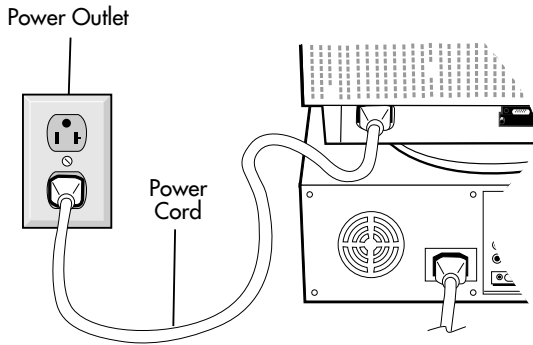

Figure C.1
**NOTE: To obtain the MultiSync A500+ or A700+ Macintosh cable adapter, call NEC Technologies at (800) 820-1230.**
5. Connect one end of the power cord to the MultiSync A Series monitor and the other end to the power outlet (Figure C.1).